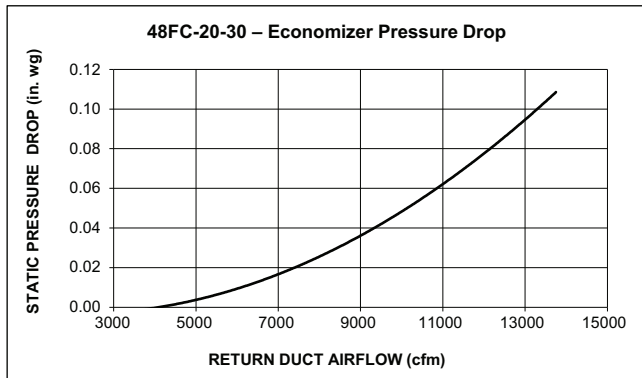

Fig. 69 — Economizer Static Pressure Drop
The standard controller is shipped from the factory configured for outdoor dry bulb changeover control. For this control mode, the outdoor temperature is compared to a selectable set point on the OAT sensor. If the outdoor air temperature is above the set point, the EconoMiSer IV will adjust the outdoor air dampers to minimum position. If the outdoor air temperature is below the set point, the position of the outdoor air dampers will be controlled to provide free cooling using outdoor air. When in this mode, the Free Cool LED next to the outdoor enthalpy set point (ABCD) potentiometer will be on. The changeover temperature set point is controlled by the dip switches on the sensor. See Fig. 68 for the switch positions corresponding to the temperature changeover values. The ABCD potentiometer on the controller should be turned fully clockwise (CW) to the “D” position. See Fig. 69 for damper leakage.